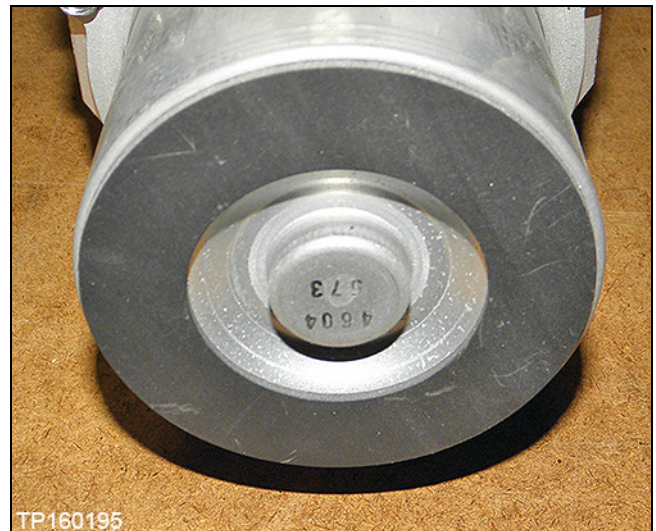

Figure 8
4. Attach the Insulator onto the end of the power steering pump motor housing (Figure 8).